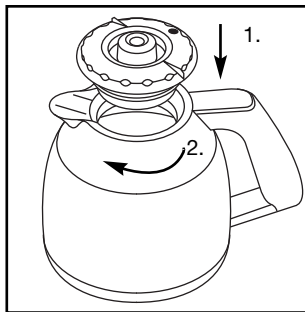
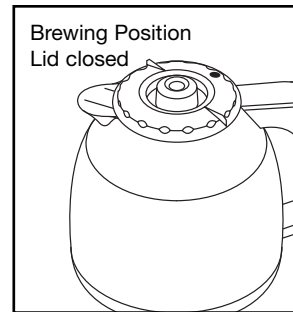
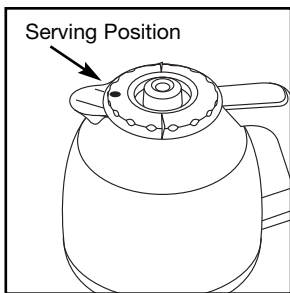

FIG. 10
FIG. 11
FIG. 12
7. Make sure the thermal carafe is empty and the lid of the thermal carafe is completely closed (Fig. 11). Insert the carafe into the machine.
For best coffee temperature pre-warm the carafe by rinsing it with hot water. Always make sure carafe is completely empty. Place the lid on top of the carafe as shown in Fig. 10 (pay attention to the position of the black dot on the lid) and turn one full turn clockwise until closed (see Fig. 11). Do not tighten too much. **Caution:** Make sure the lid is **not** in the pouring position (Fig. 12). This could result in the Filter Holder popping up. The drip stop will not work and hot coffee could overflow from the filter holder.
Attention: Please note that the lid must always be on the carafe and closed (Fig. 11) during brewing to activate the drip stop. **If you lose the lid, you cannot brew coffee.** Please call 1-800-767-3554 to order a new lid or use the enclosed mail order form. Place the carafe on the platform.
Remove the carafe from the platform. Turn the lid counterclockwise until the black dot is over the pouring spout (Fig. 12). You can now pour coffee. After serving make sure to close the lid again to prevent heat from escaping from the carafe.